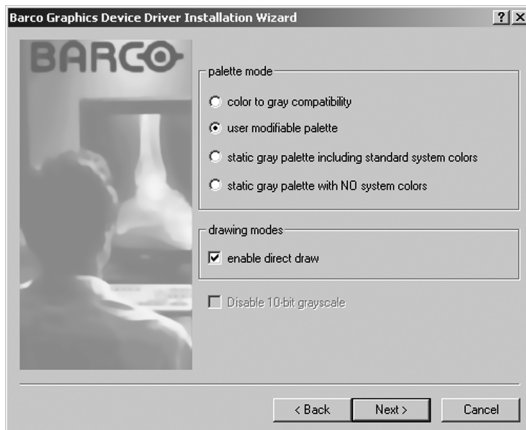

Figure 29
10. When the screen shown in figure 29 below appears select the palette mode which is the correct one for your viewing application. If you are uncertain use the default settings. You can change the palette mode later (See **"Palette Mode"** on page 68 of the BarcoMed Driver Tab section). If you want to enable DirectDraw check the **checkbox** next to "Enable Direct Draw".